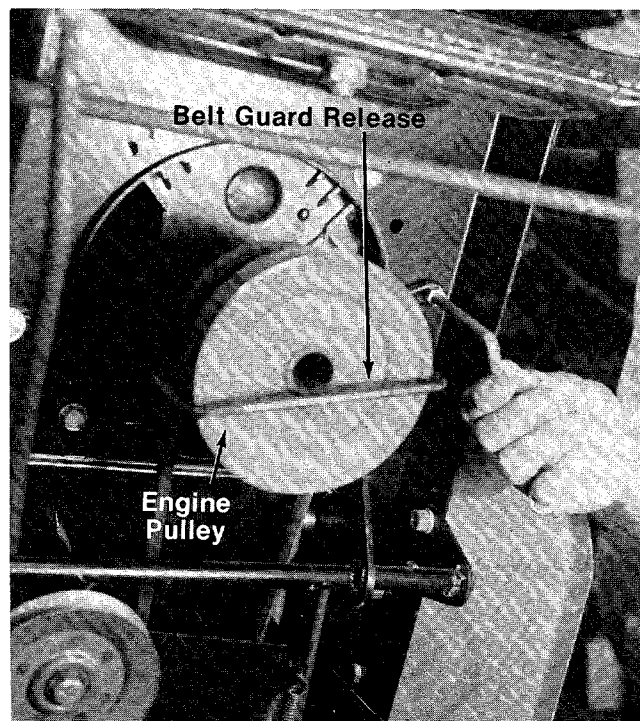

FIGURE 21.
3. Unscrew the belt guard release next to the engine pulley. (See figure 21.)